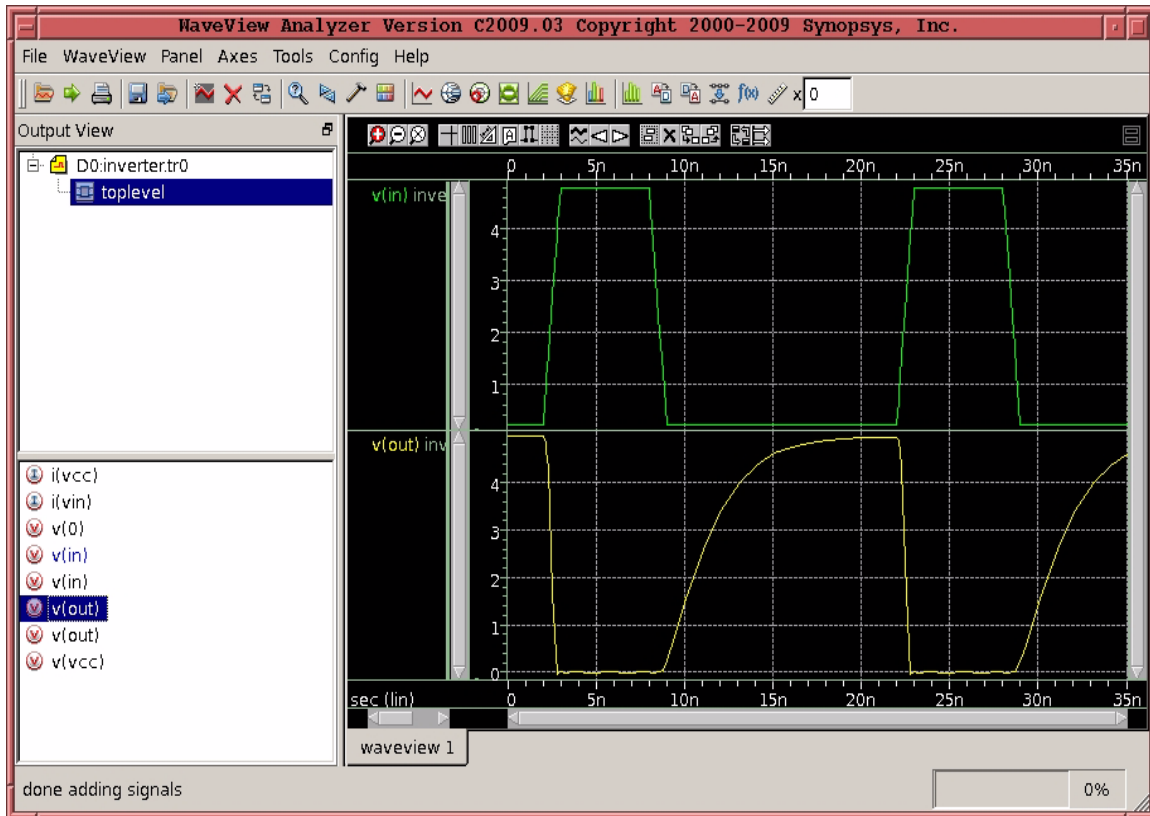

Figure 6: Waveform window with plots in each panel.
9. To plot a signal, double click on it. It's waveform will appear in the main portion of the Waveform Analyzer. Each double click on a signal name will cause a new panel to appear containing the plot. Refer to Figure 6.